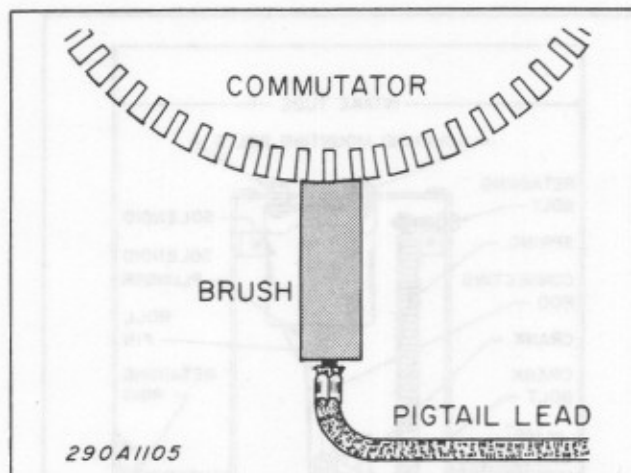

Figure 5-2. Replacement Brush Contouring.
12. Lift the brushes slightly and remove the sandpaper from the motor. Clean all carbon dust out of the commutator. The brush should seat on the commutator as shown in figure 5-2. If the brush does not fully contact the commutator, as shown in figure 5-2, repeat steps 7 through 12 until the brushes seat on the commutator as shown in the figure.